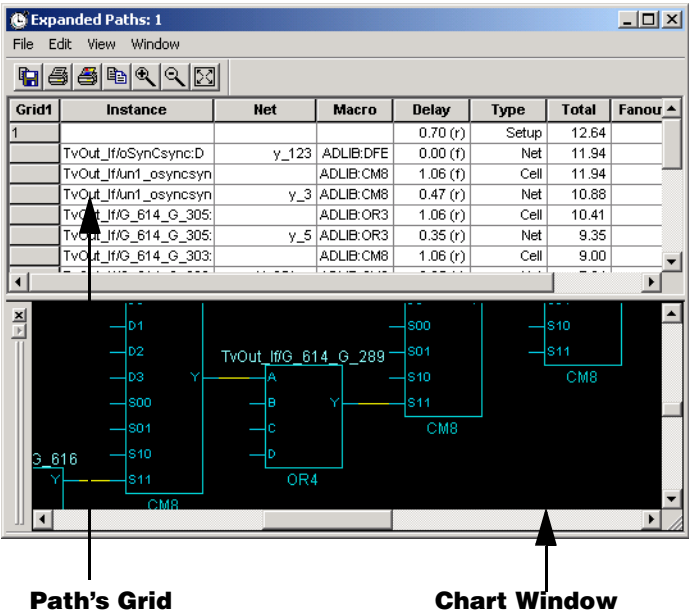

Figure 3-6. Expanding the Path
5. **Expand a path.** Double-click a path in the lower paths grid. The Expanded Paths window opens, as shown in Figure 3-6.